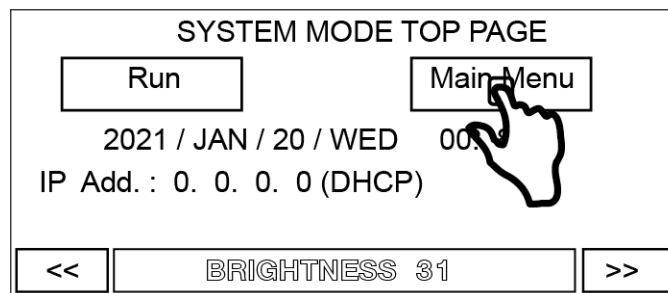

Figure 24. System Mode Top Page
3. On the System Mode Top Page, touch the Main Menu button (see Figure 24).